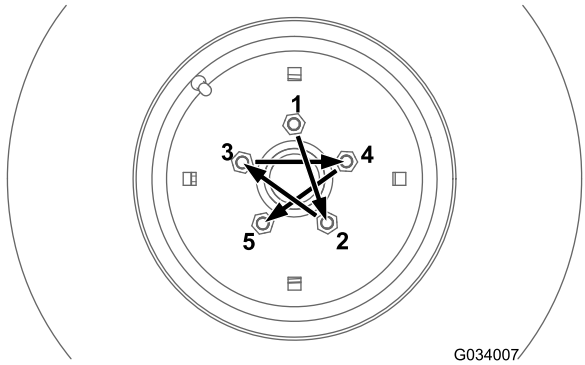
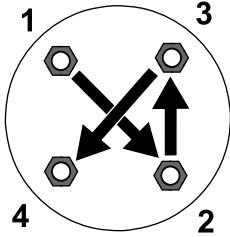

Figure 65
Figure 66
Torque the lug nuts at the front and rear wheels (4-wheel-drive machines only) in the pattern as shown in Figure 65 and Figure 66 to the specified torque.
- Front wheels: refer to Figure 65
- Rear wheels (4-wheel-drive machines only): refer to Figure 66